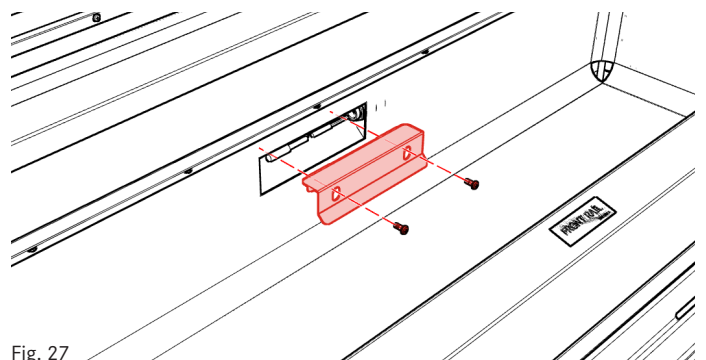

Fig. 27
3. Locate rail air temperature sensor module at back of each cold rail. Remove two (2) M5 × 12 screws fastening rail cover to module (Fig. 27).